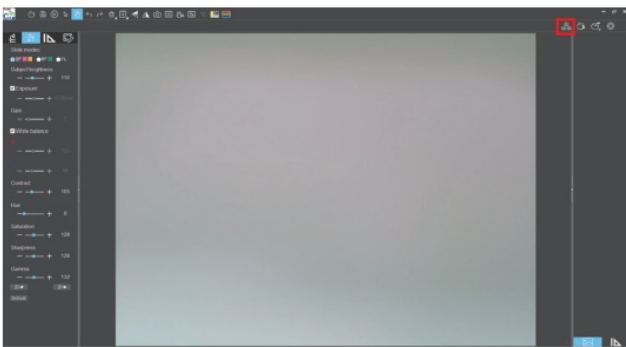

Figure 1
4. When there are multiple network cameras in the same local area network, click the icon "  " in the upper right corner of KoPa Capture Pro (Figure 1), the list automatically shows all cameras in the current local area network (Figure 2), select a camera as needed, support switching midway at any time.